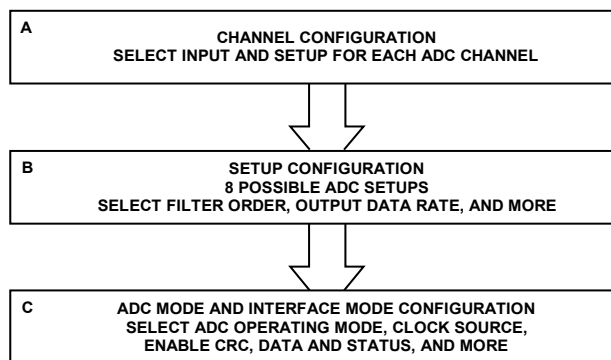

Figure 35. Suggested ADC Configuration Flow
Figure 35 shows an overview of the suggested flow for changing the ADC configuration, divided into the following three blocks:
- Channel configuration (see Box A in Figure 35)
- Setup configuration (see Box B in Figure 35)
- ADC mode and interface mode configuration (see Box C in Figure 35)